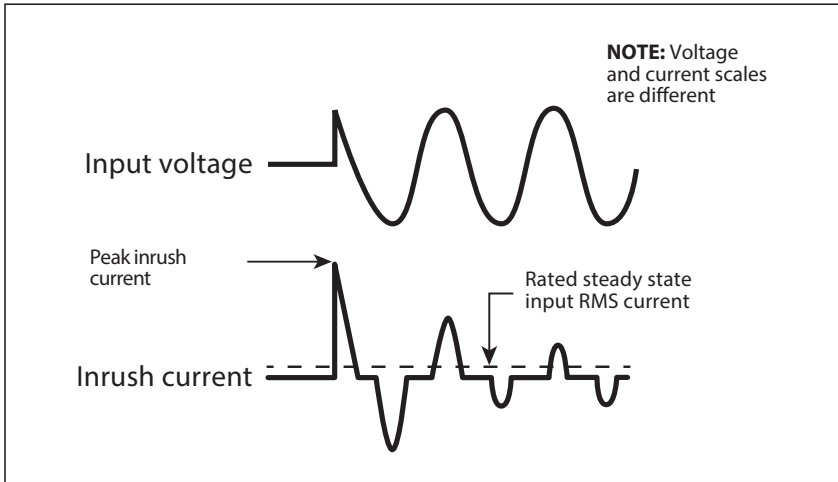

Fig 4.1: Inrush current in an SMPS.
- **AC to DC Switched Mode Power Supplies (SMPS):** This type of power supply is used as stand-alone power supply or as front end in all electronic devices powered from Utility / Grid e.g. in audio / video / computing devices and battery chargers (Please see Section 4 for more details on SMPS). When this power supply is switched ON, its internal input side capacitors start charging resulting in very high surge of Inrush Current for a few milliseconds (Please see fig 4.1). This surge of inrush current / power may reach up to 15 times the Continuous Maximum Running Power Rating. The surge of inrush current / power will, however, be limited by the Surge Power Rating of the AC source.
Switch Mode Power Supplies (SMPS) are extensively used to convert the incoming AC power into various voltages like 3.3V, 5V, 12V, 24V etc. that are used to power various devices and circuits used in electronic equipment like battery chargers, computers, audio and video devices, radios etc. SMPS use large capacitors in their input section for filtration. When the power supply is first turned on, there is a very large inrush current drawn by the power supply as the input capacitors are charged (the capacitors act almost like a short circuit at the instant the power is turned on). The inrush current at turn-on is several to tens of times larger than the rated RMS input current and lasts for a few milliseconds. An example of the input voltage versus input current waveforms is given in Fig. 4.1. It will be seen that the initial input current pulse just after turn-on is > 15 times larger than the steady state RMS current. The inrush dissipates in around 2 or 3 cycles i.e. in around 40 to 60 milliseconds for 50 Hz sine wave.